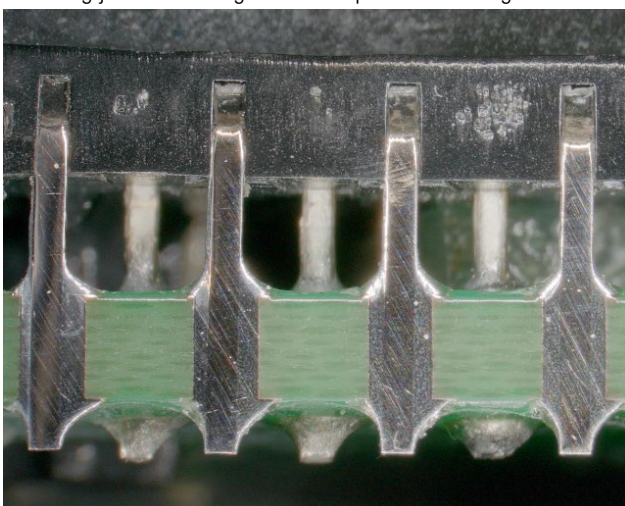

Figure 13: Soldering result (cross section)
- a minimum of 75 % solder coverage on both sides of the leads, see figure 13.